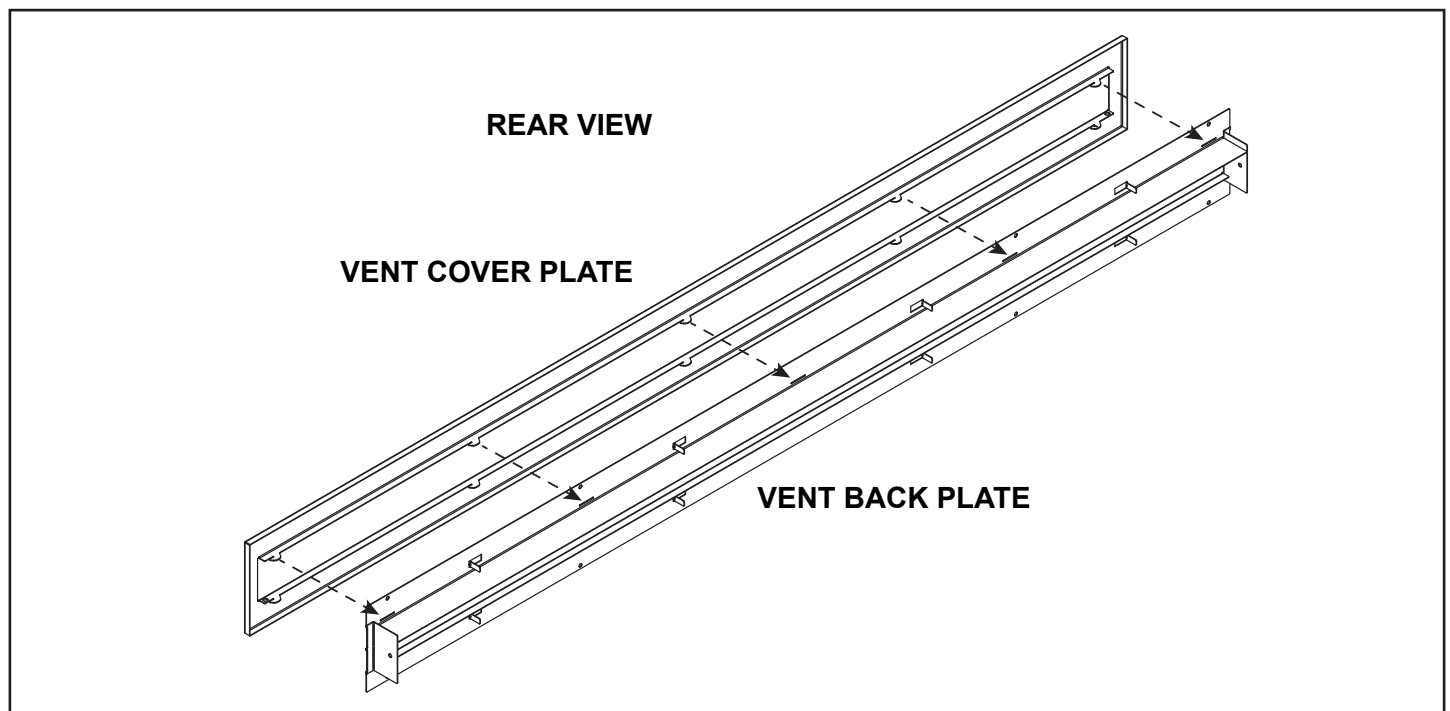

Figure 3 Attach Vent Cover to Vent Back Plate - Rear View
4. Attach the vent cover to the vent back plate by lining up the hooks of the vent cover plate to the slots on the vent back plate. Slide cover to engage hooks. See Figure 3.